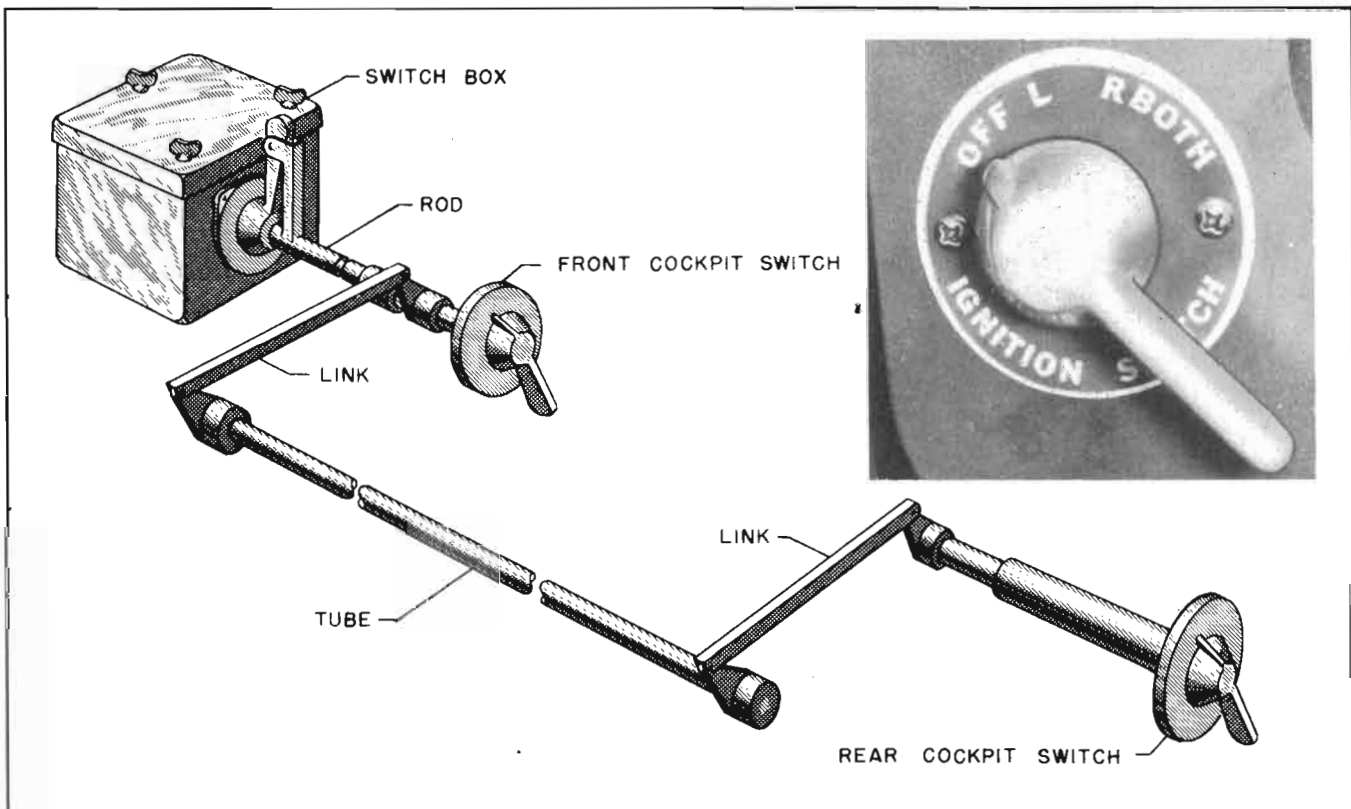

Figure 264 — Ignition Switch and Controls
(4) GENERATOR MAIN LINE SWITCH.—A generator main line switch on the front cockpit switch panel provides a means of opening the generator circuit in case the automatic relay cut out in the generator control panel fails to operate. The switch should be left in the "OFF" position when the engine is not running.
(5) IGNITION SWITCH.—(See figure 264.)—A master ignition switch box unit, wired directly to the rear of the magnetos, is located at the left side of the fuselage, forward of the front instrument panel. This master switch is operated from the left side of the instrument panel in both cockpits by a lever or pointer handle mechanically interconnected with the switch.